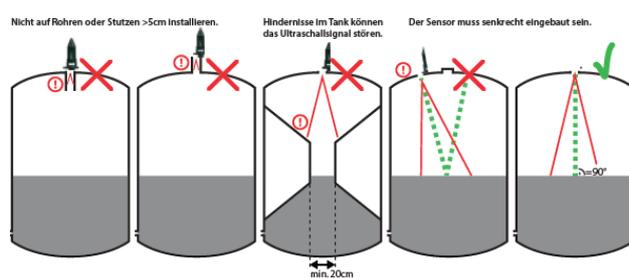

Fig. 2
**Setup 3:** Enter tank type A/B/C (see figure 2)